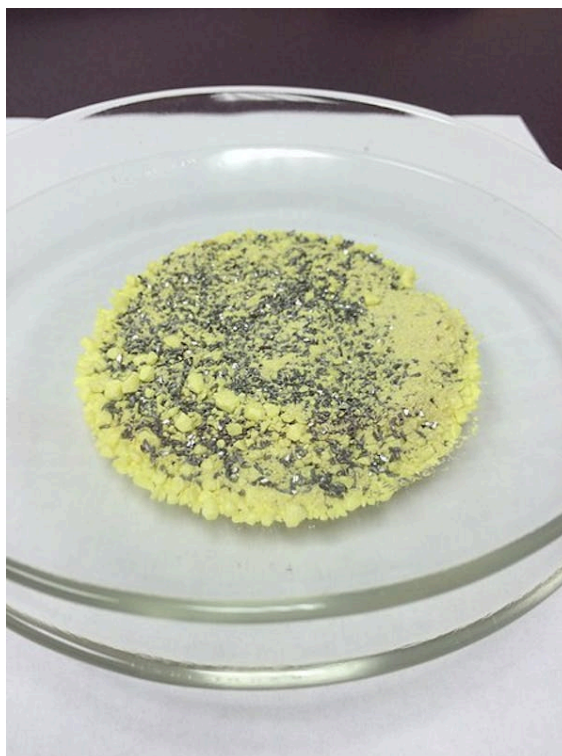

Figure 6. A mixture of sulfur (yellow) and iron filings.
- The components of a mixture retain their individual properties. An example of this is a mixture of sugar and water or iron and sulfur (**Figure 6**). The iron retains its magnetic properties when